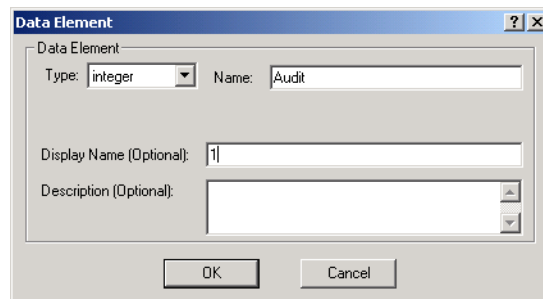

Figure 32-4. Data Element dialog with new Audit data element.
- ❶ With your process open, double-click on the Initial Task. The Initial Task Properties dialog appears.
- ❷ Right-click in the **Data Element** column and click **Add**. The Data Element dialog appears.
- ❸ Enter a name you want to assign to the data element.
- ❹ You can optionally enter a display name and description (see Figure 32-4 below).